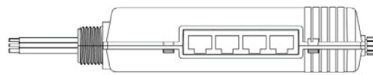

Figure 2: Room Controller SmartPORTs – Connect control devices
5. If control devices (e.g. occupancy sensors, daylight sensor and switches) are going to be used, attach them to any available Smart Port with the appropriate CAT5 device cable. Similar devices (e.g. switches) may be daisy chained together from the same Smart Port. ( See Figure 2)